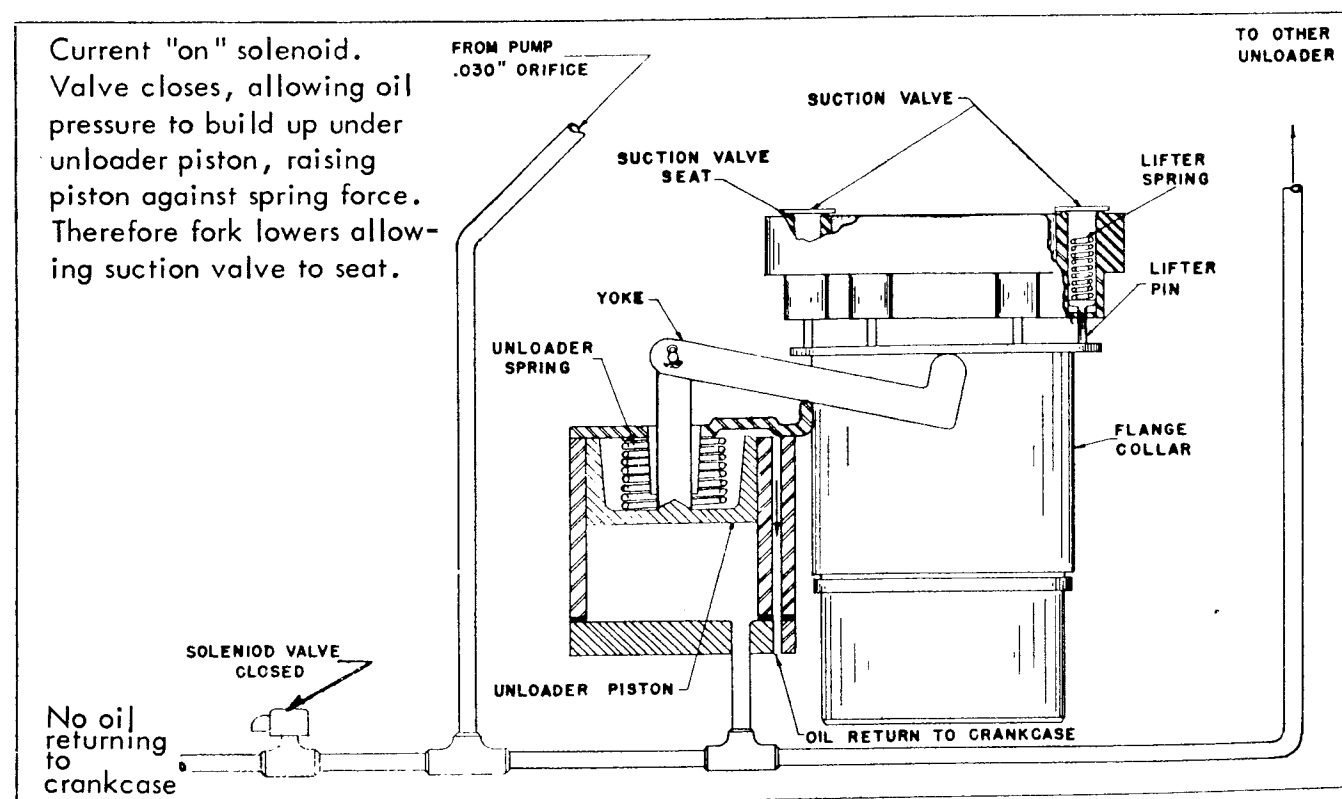

Figure 16-37: Suction Valve Discharge (Closed)
- c. Loading — When solenoids are energized, oil return from unloader cylinders is closed, therefore, oil pressure builds up under unloader pistons overcoming spring force, lowering the forks and allowing suction valves to seat and operate. (See Fig. 16-37).